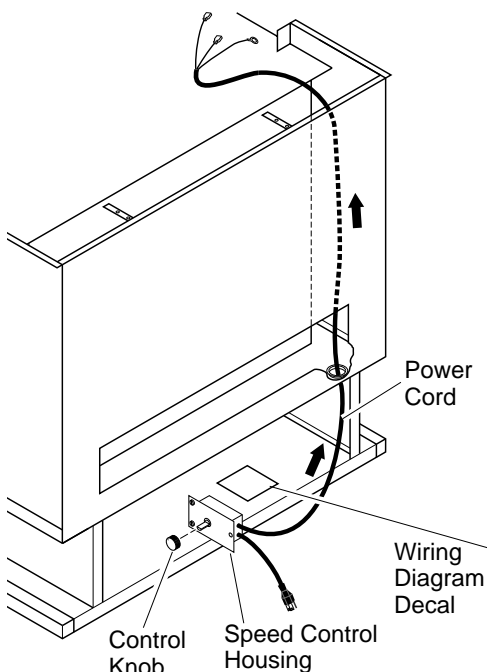
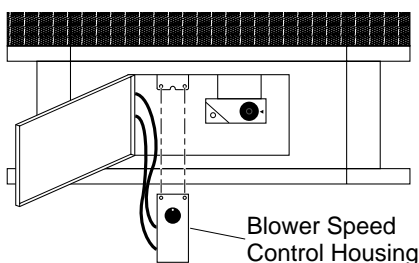
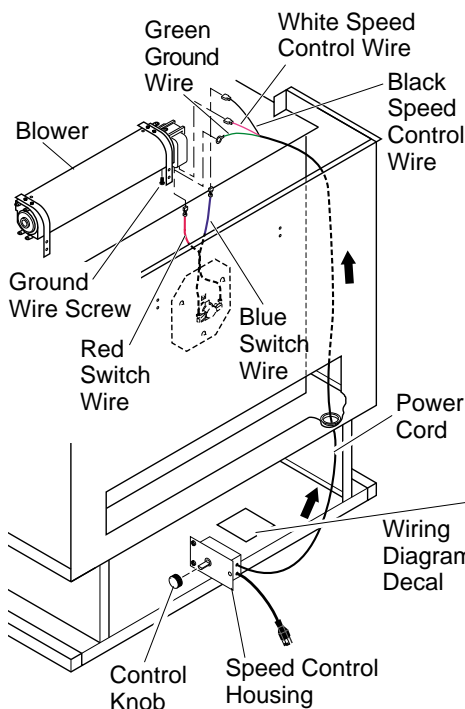

Figure 15 - Routing Power Cord
Figure 16 - Installing Blower Control Housing
Figure 20 - Connecting Switch, Blower, and Speed Control Wires
10. Route ends of 3-wire power cord up from the lower control compartment through the plastic bushing, then up to the upper cavity of stove (see Figure 15, page 11).
- Install plastic control knob onto output shaft of speed control housing (see Figure 15). Place speed control housing just inside control compartment door in front of stove (see Figure 16).
- Using two screws provided in blower kit, mount blower speed control housing to mounting tab in left side of lower control compartment (see Figure 16).
- Peel off the backing paper and stick the supplied wiring diagram decal on the stove floor as shown in Figure 15.
15. Working from the rear of the stove, place entire power cord, including speed control housing, in lower control compartment (see Figure 20).
16. Route ends of 3-wire power cord up from the lower control compartment through the plastic bushing, then up to the upper cavity of stove (see Figure 20).
17. Connect white wire from speed control to either terminal on blower motor (see Figure 20). Push firmly.
18. Connect the black wire from speed control to blue wire on switch/cover assembly (see Figure 20).
19. Connect red wire from switch/cover assembly to remaining terminal on blower motor (see Figure 20). Push firmly.
20. Attach green wire from speed control to front tab of blower housing using screw provided (see Figure 20). Tighten securely.
22. Install plastic control knob onto output shaft of speed control housing (see Figure 20). Place speed control housing just inside control compartment door in front of stove (see Figure 16, page 11).
23. Using two screws provided in blower kit, mount blower speed control housing to mounting tab in left side of lower control compartment (see Figure 16, page 11).
26. Peel off the backing paper and stick the supplied wiring diagram decal on the stove floor as shown in Figure 20, page 12.